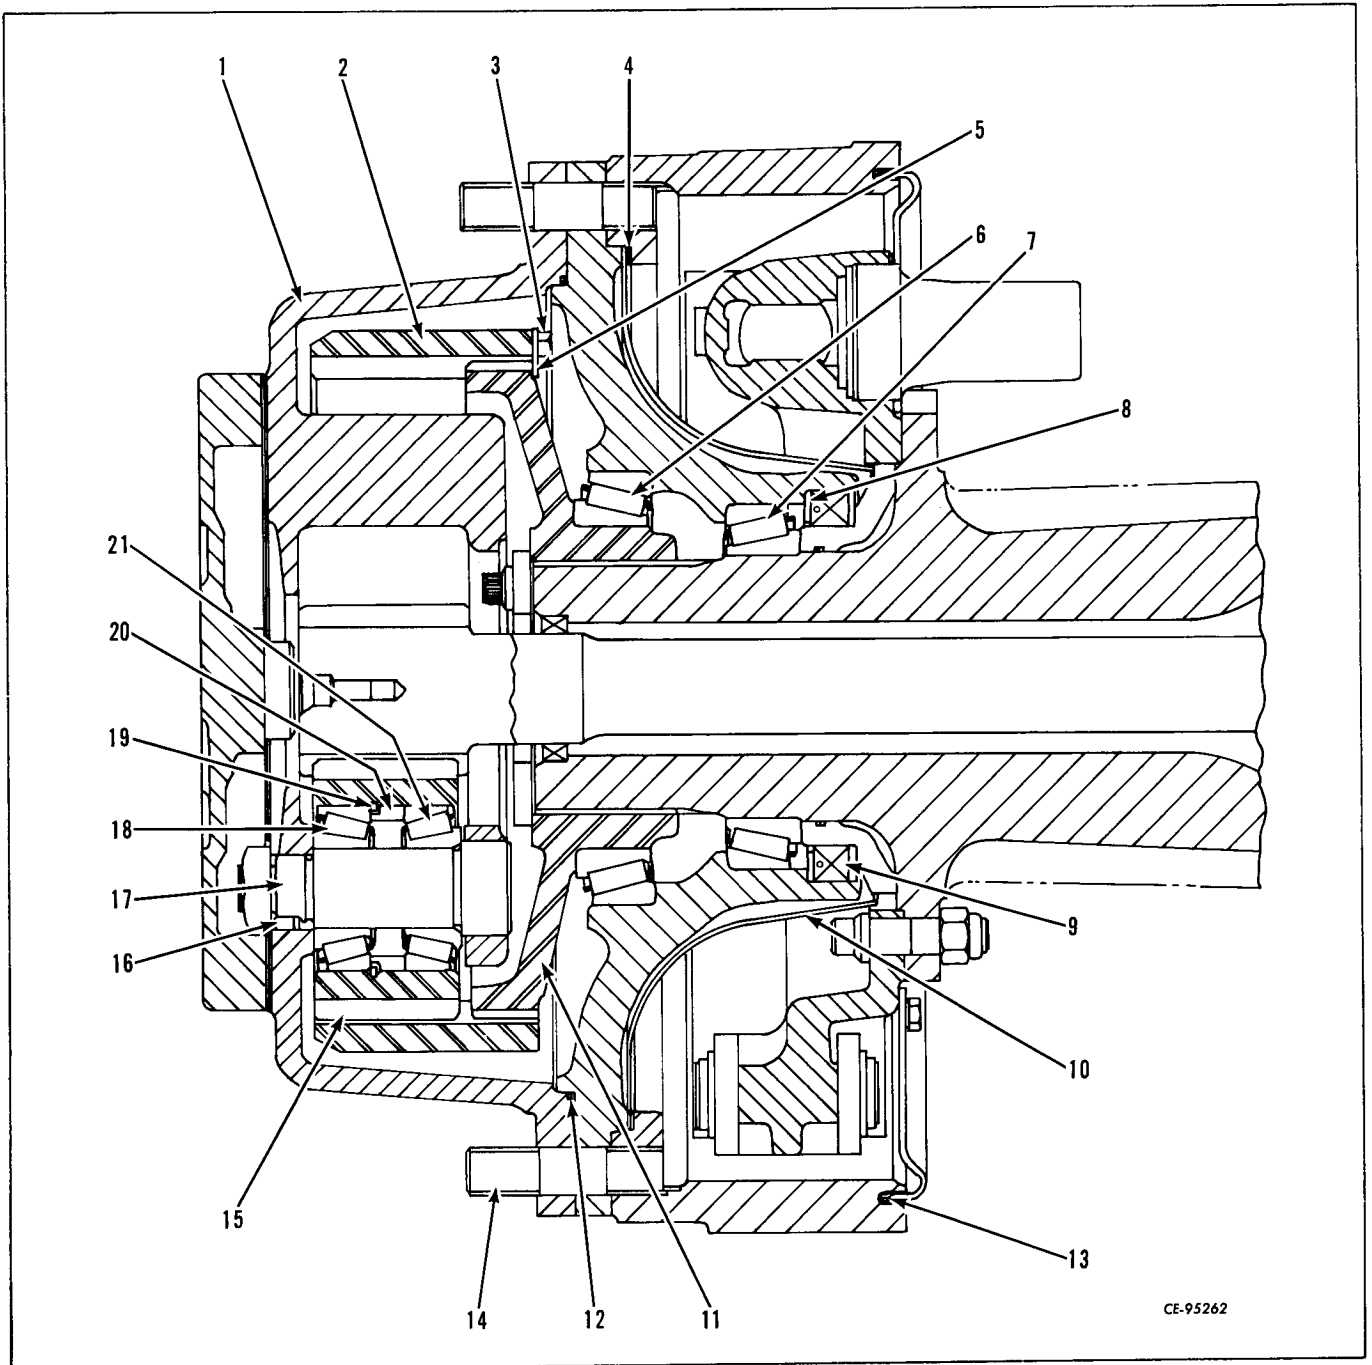
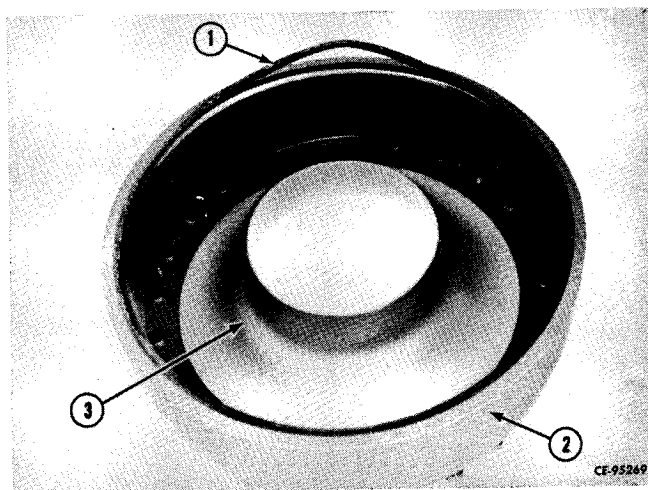

Figure 6-71
Figure 6-80
If the scavenger (3, Fig. 6-80) is damaged and requires replacement, drive it from the drum assembly with a heavy mallet. Remove the seal ring (4, Fig. 6-71) that lies between the scavenger and the brake drum. Discard seal and scavenger.
Remove the felt seal (1, Fig. 6-80) from its groove in the brake drum (2). Discard the seal.
Install a new seal (4, Fig. 6-71) on the drum shoulder of the drum. Position a new scavenger (3, Fig. 6-80) on the drum and tap edges lightly to start scavenger into bore. Position a hardwood block across the FULL DIAMETER of the scavenger and using a mallet drive the scavenger into position. Rotate the block while striking it with the mallet. Be sure the scavenger is seated around its entire circumference against the drum shoulder.
Install a new drum seal (1, Fig. 6-80) in the drum groove. Do not damage or distort the seal during installation. Seal must not be twisted during installation.